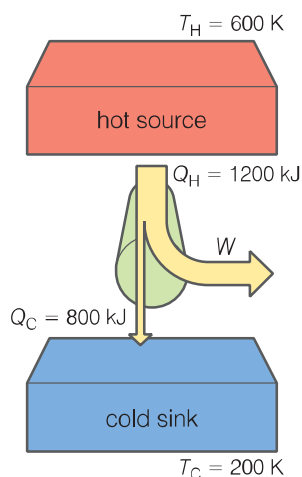

Figure 1.47 For question 2
2. Calculate the efficiency and the maximum theoretical efficiency of the heat engine in Figure 1.47.